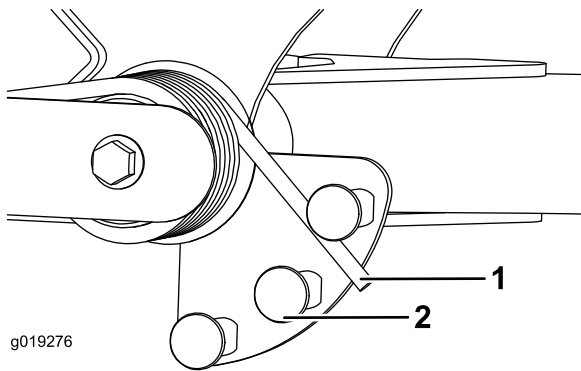

Figure 35
2. Insert a tube or similar object onto the long spring end and pivot it around the spring actuator to the desired position (Figure 35).